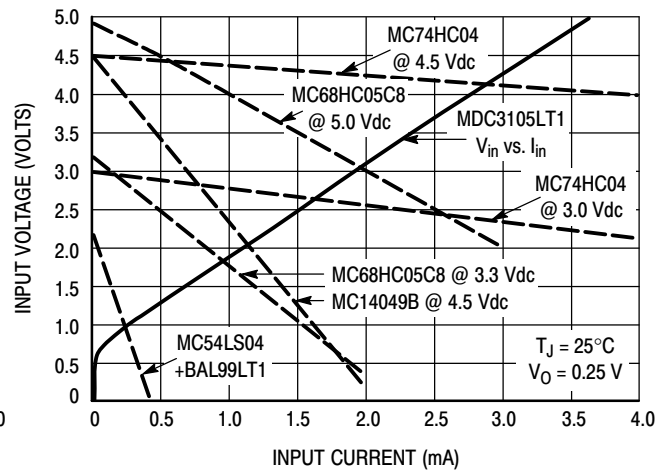

Figure 3. Input V-I Requirement Compared to Possible Source Logic Outputs
6. For levels of input current above $100\ \mu A$, enter Figure 3 using that max input current and determine the input voltage required to drive the MDC3105 from the solid V_{in} versus I_{in} line. Select a suitable drive source family from those whose dotted lines cross the solid input characteristic line to the right of the I_{in} , V_{in} point.